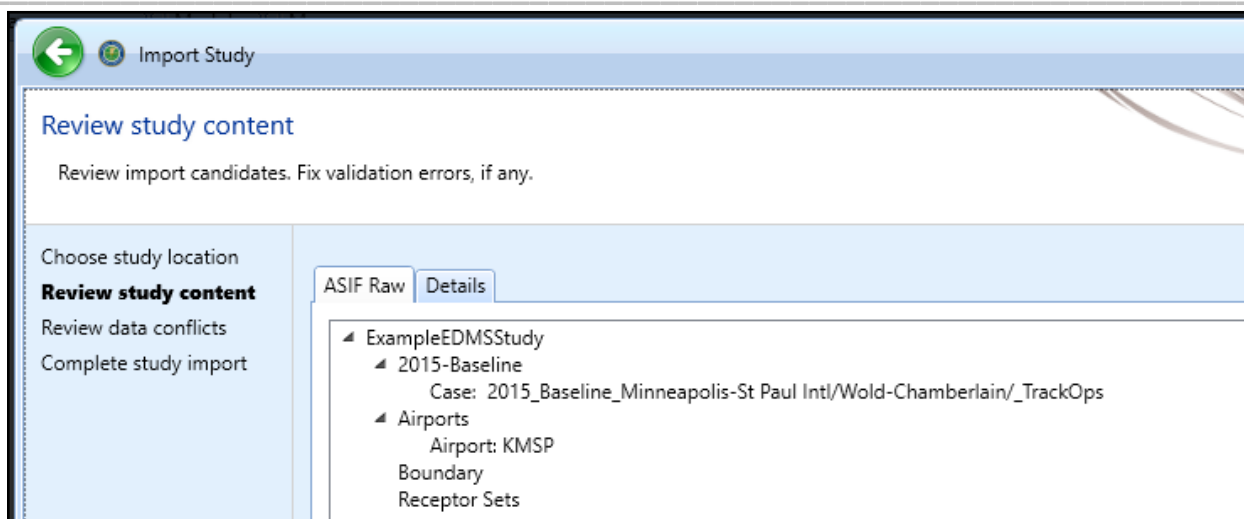

Figure 36- review study content - Asif raw
- The *Details* tab displays a detailed view of the study content, organized by categories. (Figures 36 and 37)